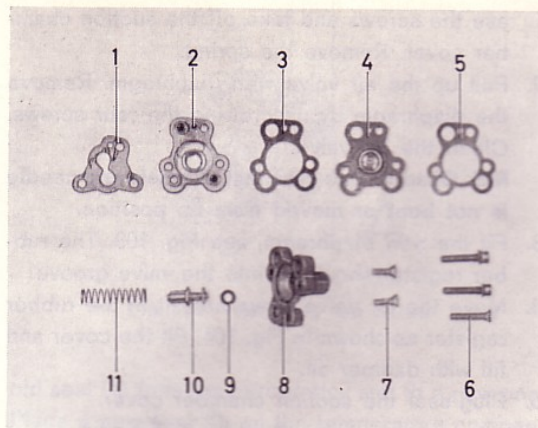

Fig. 101 Throttle by-pass valve
**N.B. When adjusting,** do not press the adjusting screw inwards since the rubber ring (9, Fig. 101) sealing between the screw and cover can drop out of position. Check for air leakage by e.g. placing a finger over the rubber ring hole.
The throttle by-pass valve is replaced complete. The valve is removed from the carburettor by screwing out the three screws (6, Fig. 101). Clean the gasket surface and fit the new valve with gasket (1). Carry out a function test.